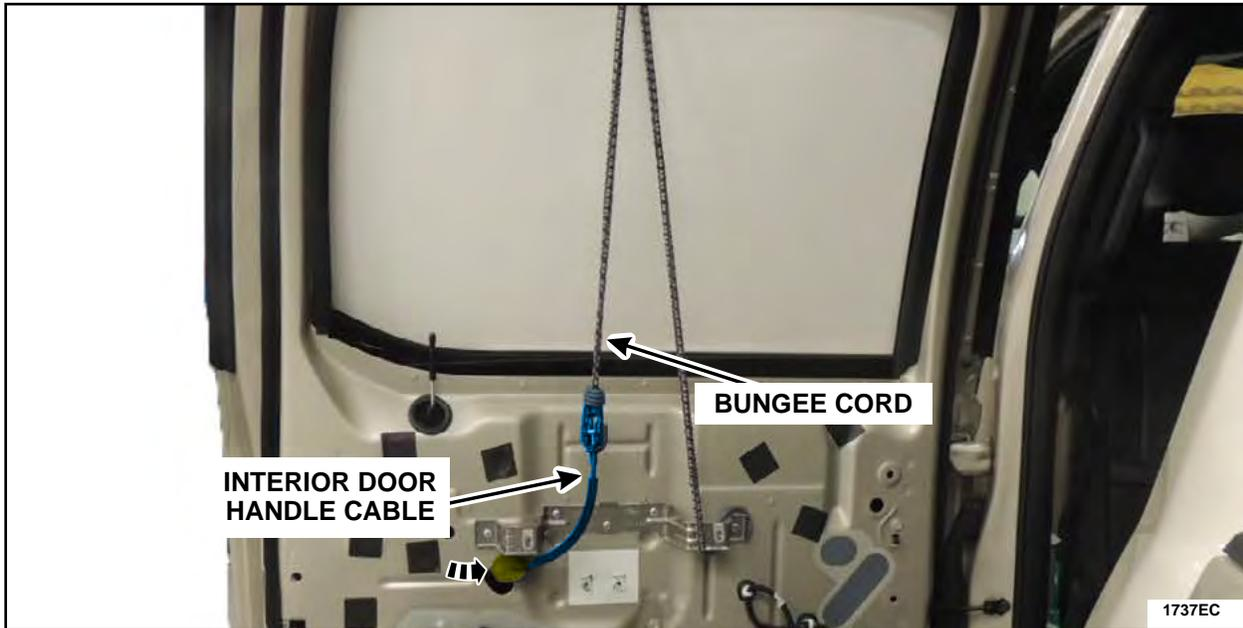

FIGURE 89
16. Using a bungee cord or other similar device, secure the interior door handle cable to the door in an upward position to allow the lubricant time to run down into the cable, until the interior door handle cable is reinstalled later in this procedure. See Figure 89.